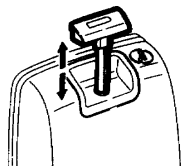

Fig. 9
9. C-200 CW only: Before using the toilet it is recommended to flush some water into the bowl by lifting and pressing down the flush handle (fig. 9).